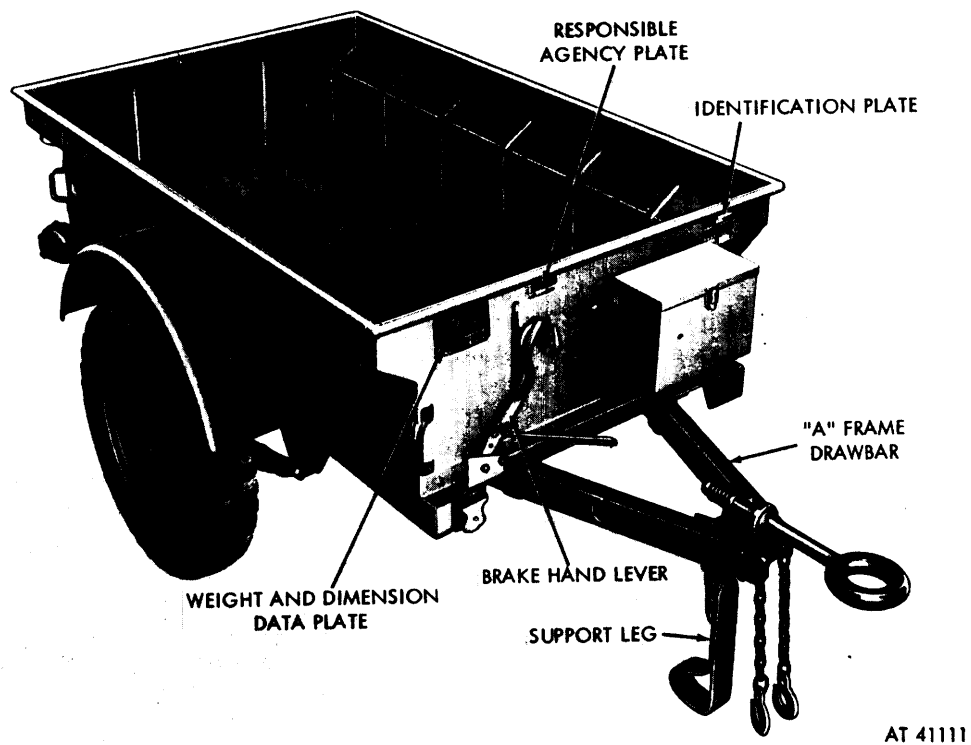

Figure 1-1. 1/4-ton, 2-wheel Cargo Trailer M100—right front view.
a. *General.* The M100 Cargo Trailer (fig. 1-1 and 1-2) and the M115 Chassis Trailer are a two-wheel general purpose carrier designed to carry a load of 500 pounds cross-country. The M367 Maintenance Trailer (fig. 1-3) is a two-wheel general purpose carrier used as a Telephone Cable Splicer.
(1) The body and frame are of one piece welded construction.
(2) The body is water-tight and will float the trailer and a 500-pound load in fording operations.
(3) Two drain valves are provided, one in the front, and one in the rear of the floor.
(4) The trailer is equipped with two tail lights which are operated from the towing vehicle.
(5) An intervehicular cable is provided for connecting the trailer electrical system with that of the towing vehicle. This cable is stowed in the intervehicular cable storage box mounted on the left front of the body.
(6) Reference in this manual to the right or left sides of the vehicle will be as viewed when standing at the rear of the vehicle facing forward.
(7) An A frame drawbar is bolted to the frame side members and serves as a mount for the towing connections and the support leg. The support leg is a movable support which is used to keep the trailer upright when the trailer is not connected to a towing vehicle.
(8) A canvas paulin, which fastens to hooks welded to the body, is provided to cover the trailer top.